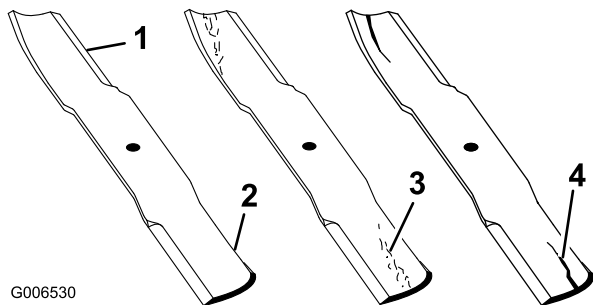

Figure 92
1. Inspect the cutting edges (Figure 92). If the edges are not sharp or have nicks, remove and sharpen the blades. Refer to Sharpening the Blades (page 58).
2. Inspect the blades, especially the curved area (Figure 92). If you notice any damage, wear, or a slot forming in this area (Figure 92), immediately install a new blade.